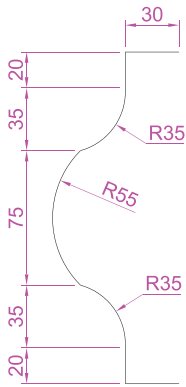

Fig. 5.8 First example – Mirror – outline
1. Construct the outline shown in Fig. 5.8 using the **Line** and **Arc** tools.